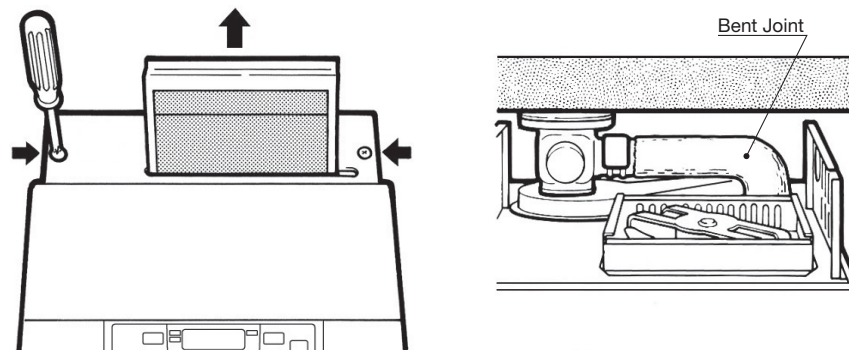

Fig. 11
7. Move the heater into position. Remove the filter and the two (2) screws holding the upper rear cover. Connect the bent joint to the exhaust outlet opening and attach the L-shaped hose to the intake inlet opening. Make sure all connections are tight (See Fig. 11).